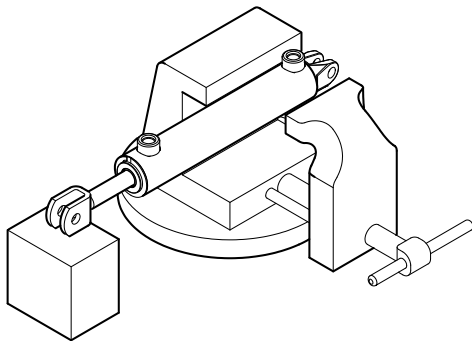

Figure 6-3, Cylinder Vise
2. Clamp the cylinder lightly at the base end in a soft jawed vise. Use a block or other support under the rod end of the cylinder. (Figure 6-3)